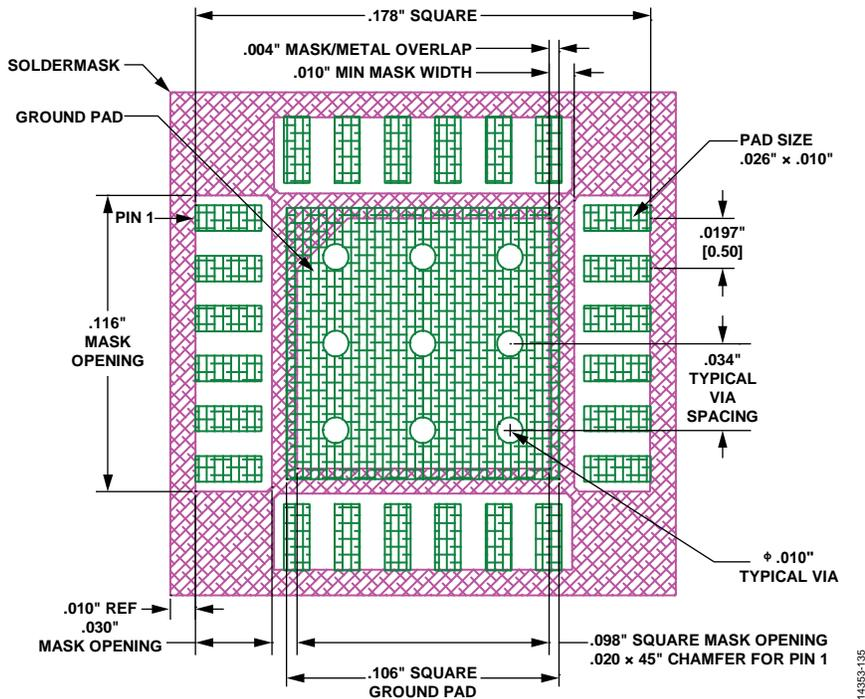
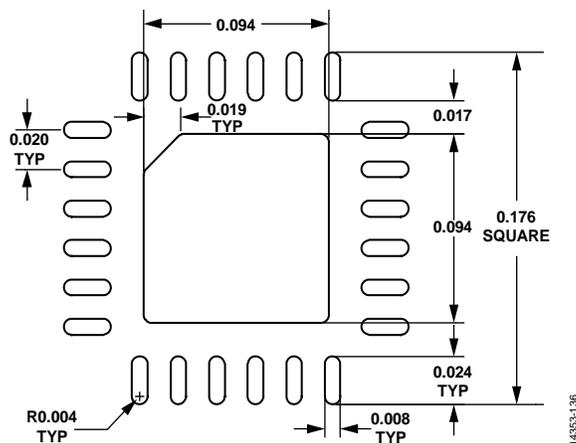
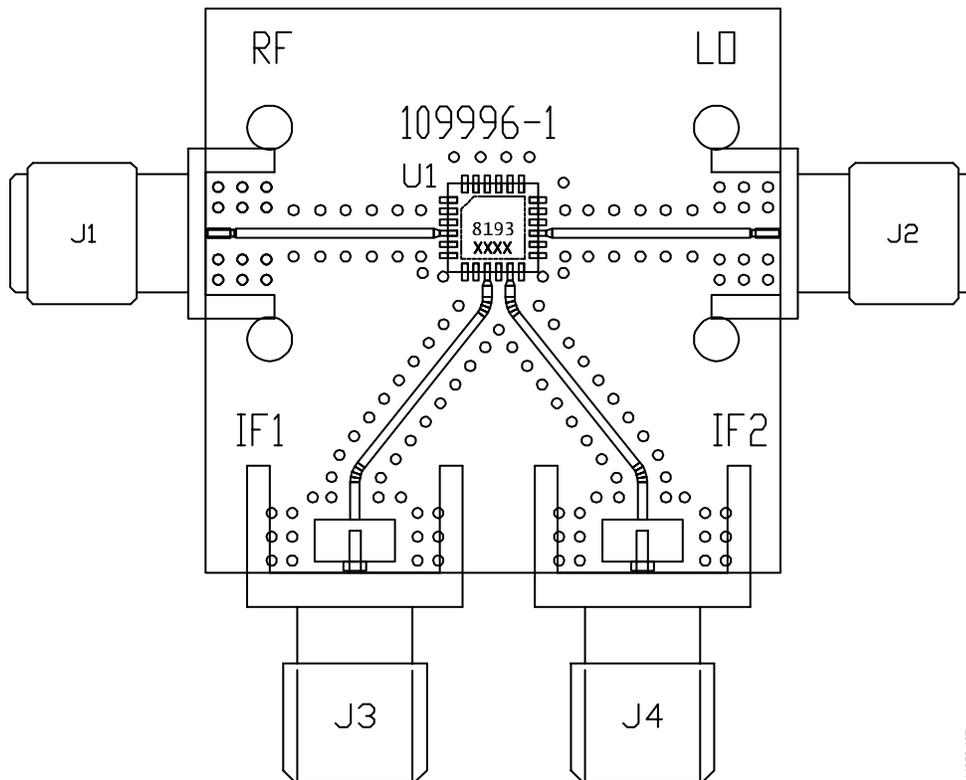

Figure 119. Evaluation Board Land Pattern for the HMC8193 Package
Figure 120. Solder Stencil for the HMC8193 Package on the HMC8193 Evaluation Board
Figure 121. EV1HMC8193LC4 Evaluation PCB, Top Layer
Figure 119 and Figure 120 show the recommended land pattern and solder stencil for the HMC8193, respectively. The HMC8193 is contained in a 4 mm × 4 mm, 24-terminal, ceramic, LCC package, which has an exposed ground pad (EP). This pad is internally connected to the ground of the chip. To minimize
shown in Figure 119. Use a sufficient number of via holes to connect the top and bottom ground planes. The evaluation circuit board shown in Figure 121 is available from Analog Devices upon request.